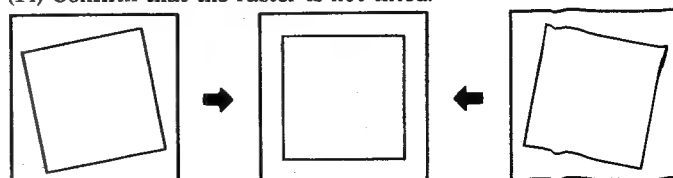

Fig. 5
5. Bring the landing sensor into contact with the portion where the cursor is displayed at the center of the screen and click the button on the landing sensor. The cursor will move automatically from **[1]** to **[7]** in sequence as shown in Fig.5, so repeat the adjustment seven times in the same manner.